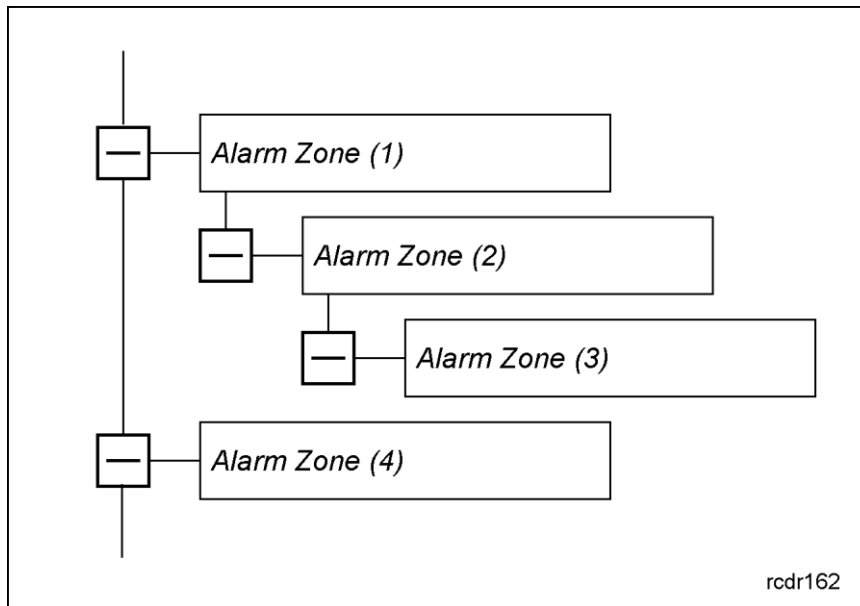

Fig. 8 Hierarchy of Alarm Zones
Alarm Zone hierarchy in RACS 4 system is arranged in tree structure which reflects relationship and dependencies among them. In figure 8, there is shown example of Alarm Zone hierarchy.
Based on example shown in fig. 8, following dependencies can be specified: Alarm Zone (4) is independent of other zones; Alarm Zone (2) is dependent on Alarm Zone (1) while Alarm Zone (3) is dependent on Alarm Zone (2); Arming of Alarm Zone 1 results in arming of Alarm Zones (2) and (3) while arming of Alarm Zone (2) results in arming of Alarm Zone (3); Disarming of Alarm Zone (1) does not affect subordinate zones i.e. Alarm Zones (2) and (3).